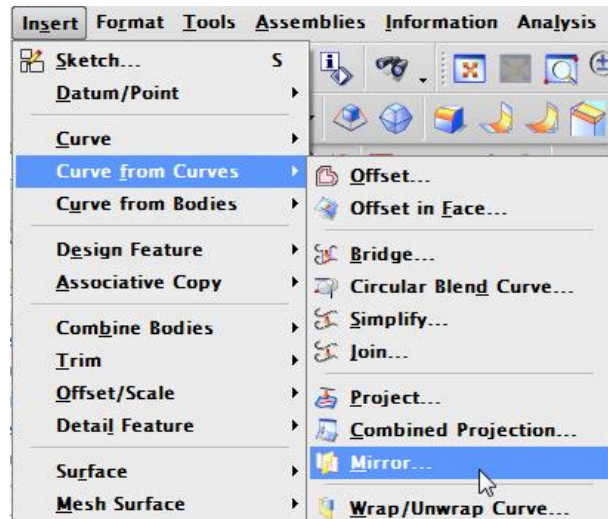

Figure 6–44
6. Select **Net Boundary**, **Extended Boundary**, and **Zero Direction** for the curves and the mirror plane as shown in Figure 6–45.